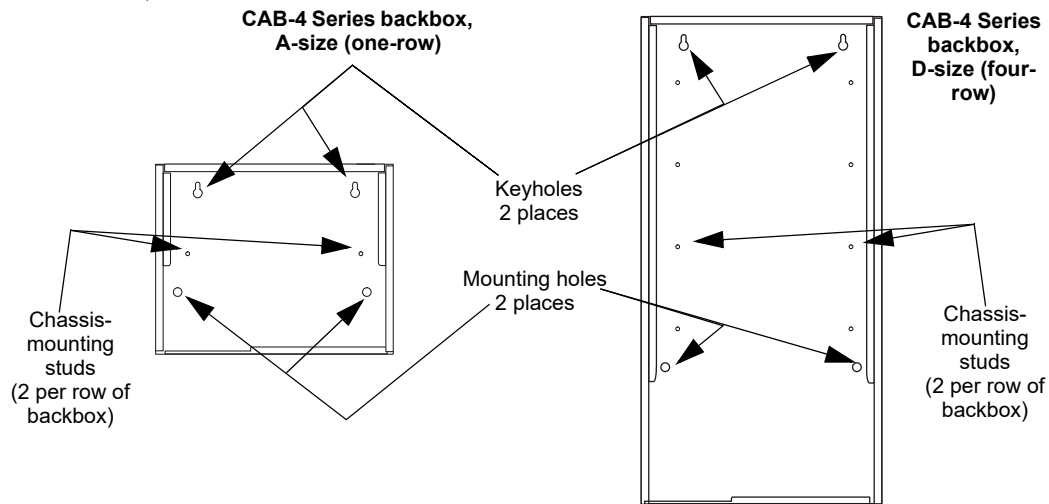

Figure 2.2 Backbox-Mounting Holes and chassis-Mounting Studs
- Use the four holes in the back surface of the backbox to provide secure mounting (See Figure 2.2, “Backbox-Mounting Holes and chassis-Mounting Studs” on page 13).